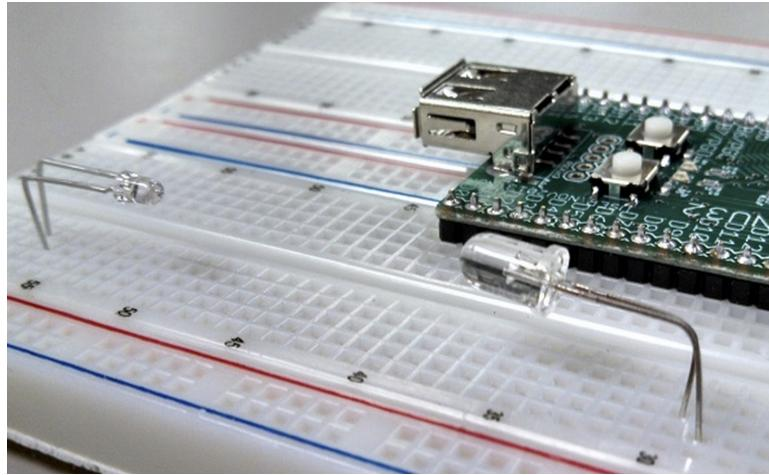

Figure 12.3: The phototransistor (left) and LED (right) pointed toward each other.
2. **Choose R .** Wire up the circuit as shown in Figure 12.1, except for the connection from the LED to OC1. The LED and phototransistor should be pointing toward each other, with approximately one inch separation, as shown in Figure 12.3. Now choose R to be as small as possible while ensuring that the voltage V_{out} at the phototransistor emitter is close to 3 V when the LED anode is connected to 3.3 V (maximum LED brightness) and close to 0 V when the LED anode is disconnected (the LED is off). (Something in the $10 \text{ k}\Omega$ range may work, but use a smaller resistance if you can still get the same voltage swing.) Record your value of R . Now connect the anode of the LED to OC1 for the rest of the project.